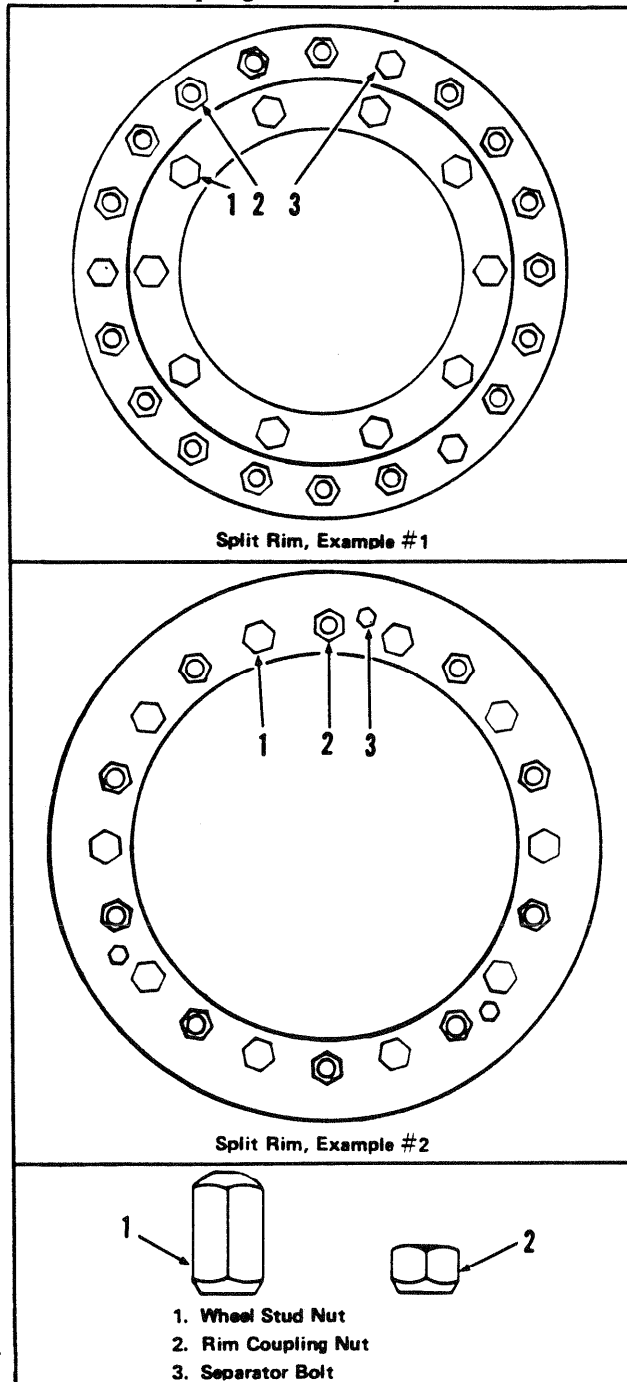

Fig. 12-3 Split Rims
- Remove the rim stud nuts. Refer to Fig. 12-3 for the correct location of the rim stud nuts.
NOTE: Example 1, in Fig. 12-3 visually shows the Rim coupling nuts facing the outside of the rim. The current rims of this style have the coupling nuts facing the inside of the rim. Both styles have the wheel stud nuts facing the outside of the rim.